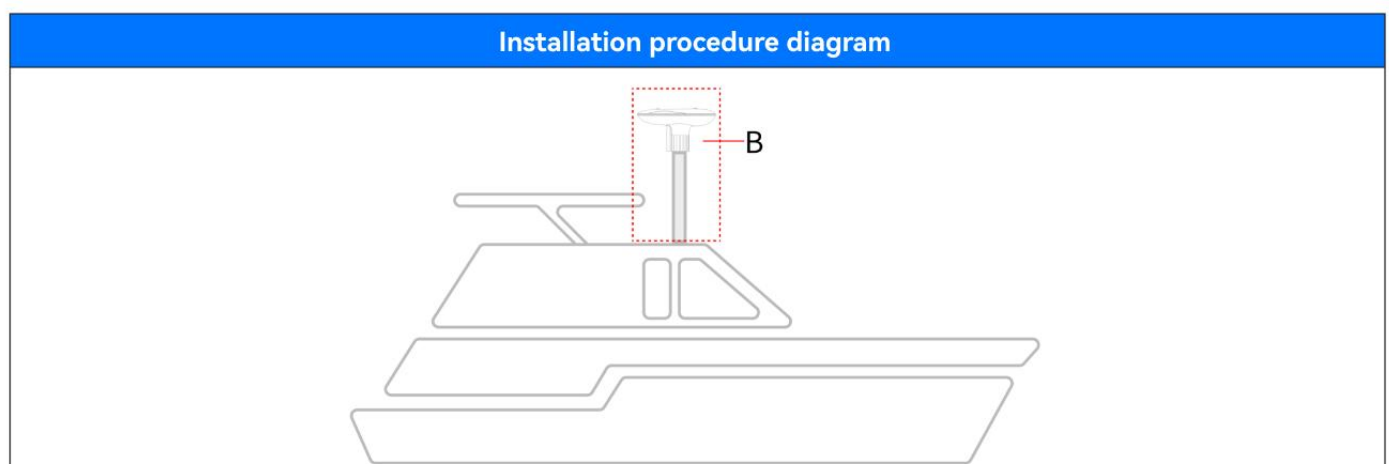

Figure 3.3
3. As shown in FIG. 3.3, fix the pole and sensor of Part B on the fence of the compass deck to ensure that it is fixed firmly and reliably, without rocking or loosening. Keep it flush with the deck plane and install it in the center of the ship as far as possible.